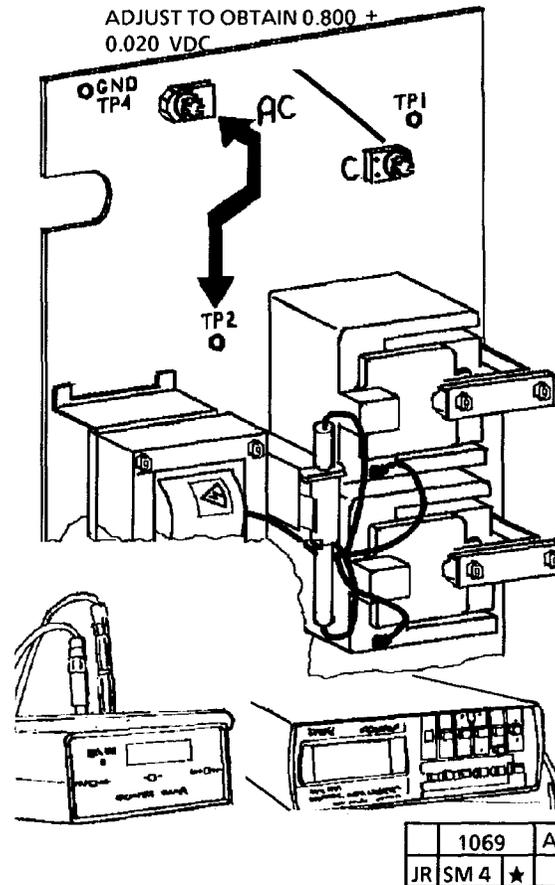

Figure 7. Adjust the Charge Voltage
14. (FIGURE 7): ADJUST CHARGE VOLTAGE.